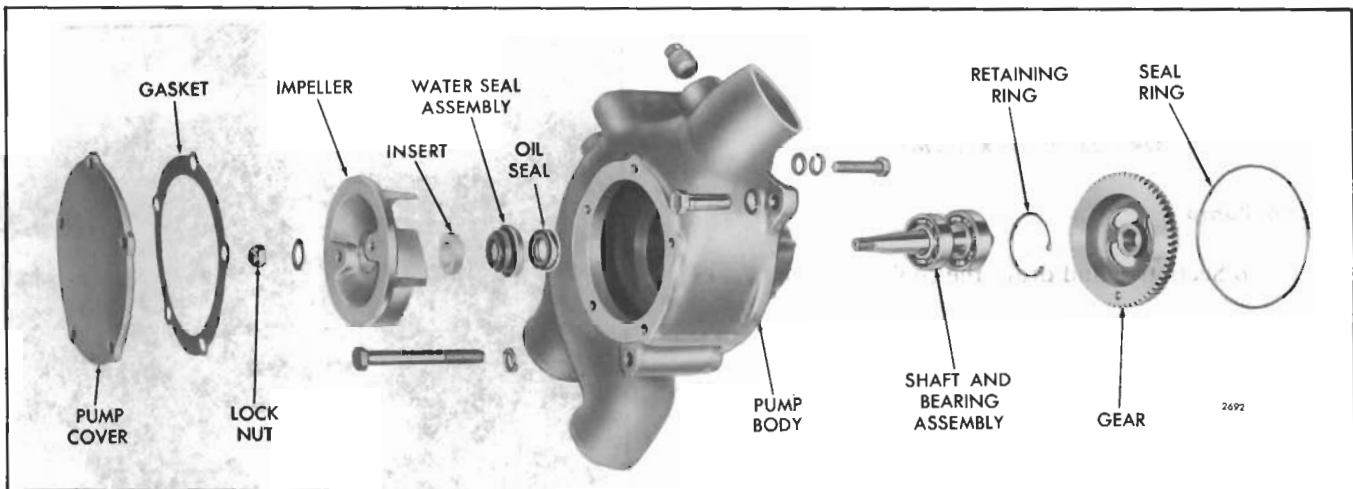

Fig. 5 - Former Water Pump Details and Relative Location of Parts
A bronze impeller is secured to one end of a stainless steel shaft by a lock nut. The water pump gear is pressed on the opposite end of the shaft. Two ball bearings are used to carry the shaft. The larger bearing is used at the drive gear end of the shaft to accommodate the thrust load (Fig. 5).
1. Remove the pump cover and gasket (Fig. 5).
6. Make sure the mating surfaces of the water seal and the ceramic insert (Fig. 5) are free of dirt, metal particles and oil film.